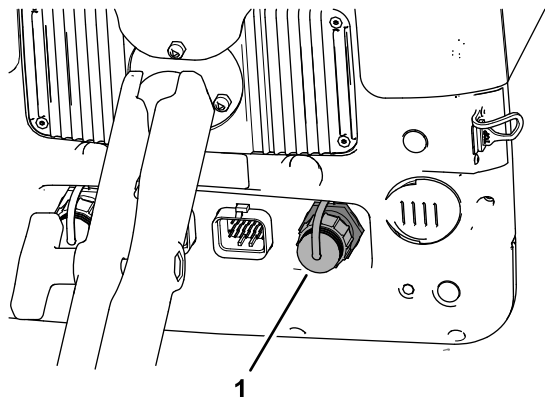

Figure 2
1. Remove the cap from the USB port of the sprayer-display (Figure 2).